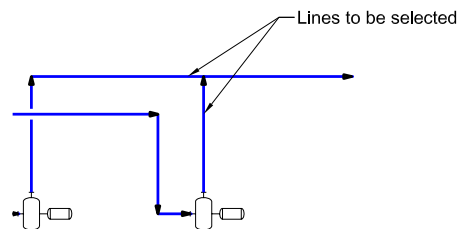

Figure 2-54 Lines to be selected to create a group
2. Select the lines connecting the vertical nozzles of the pumps, refer to Figure 2-54. Next, press ENTER; the selected lines are grouped.